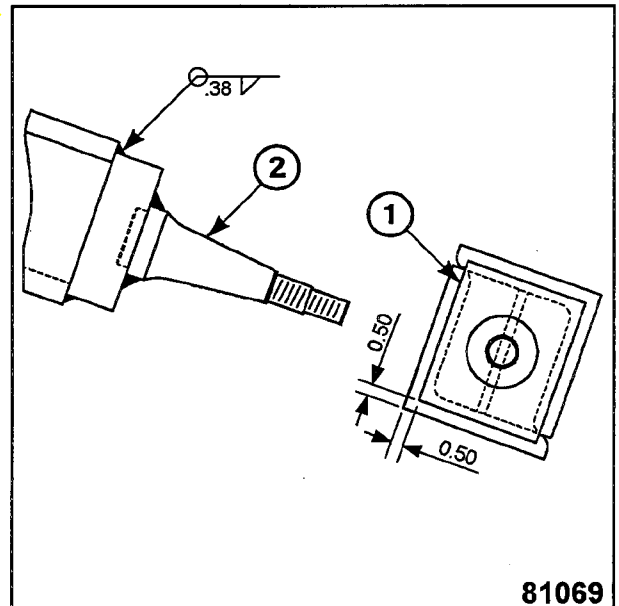

Figure 2
3. Locate new style end weldment (1) to drawbar per dimensions in Figure 2.
4. Protect tapered pin (2) from weld spatter and weld end weldment to drawbar per weld symbols shown in Figure 2.